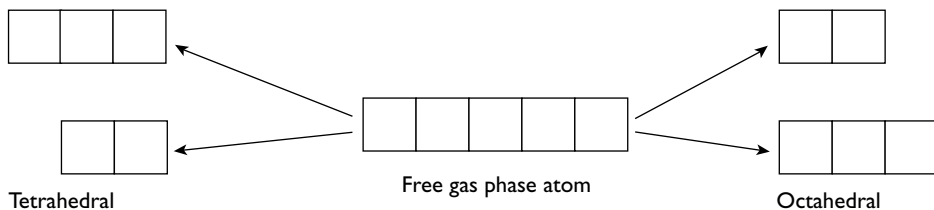
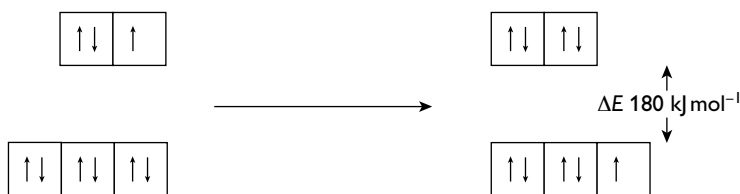

Figure 11.5 Splitting of d-orbitals in transition metal complexes
Figure 11.6 Promotion of an electron in copper(II)
Figure 11.5 shows that for the formation of a tetrahedral complex, three orbitals have higher energy ($3d_{xy}$, $3d_{yz}$ and $3d_{zx}$), whereas for an octahedral complex the reverse is true ($3d_{x^2-y^2}$ and $3d_{z^2}$). This is because in octahedral complexes the ligands approach the central metal ion along the axes, and there is repulsion between the electrons on the ligands and those in the $3d_{x^2-y^2}$ and $3d_{z^2}$ orbitals. In tetrahedral complexes the four ligands approach the central metal ion between the axes and now there is repulsion between the electrons on the ligands and those in the $3d_{xy}$, $3d_{yz}$ and $3d_{zx}$ orbitals.
As well as forming simple compounds such as oxides and salts, one of the characteristic properties of transition metals is their ability to form complex ions, many of which have a distinctive colour. The reason for this colour is the absorption of light in different parts of the electromagnetic spectrum. This absorption occurs because of the movement of an electron from a lower energy d-orbital to one of higher energy (see Figure 11.5). In the case of the aqueous copper(II) ion the transition is shown in Figure 11.6.